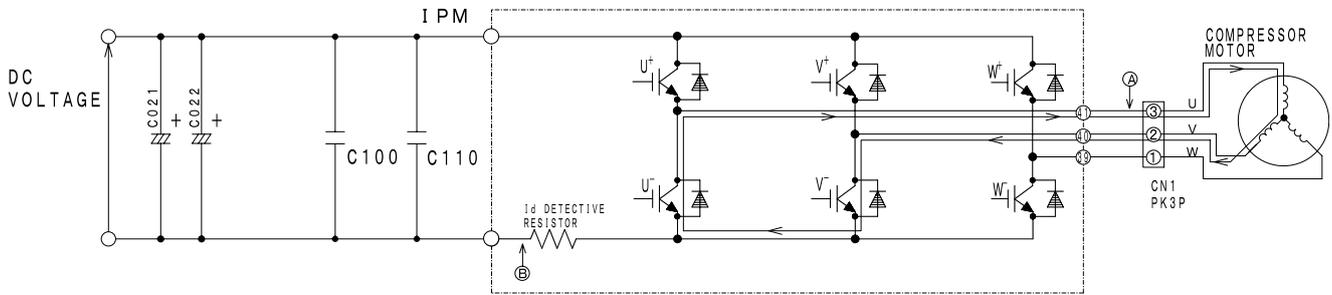

Fig. 4-4 Power module circuit (U⁺ is OFF, V⁻ is ON)
At point ⑥: U⁺ is chopped (OFF), V⁻ is ON (circuit in Fig. 4-4)
- (2) When U⁺ transistor is OFF: (by inductance of motor coil) U coil → V coil → V⁻ transistor → U⁻ diode → Point ④ (Fig. 4-4)